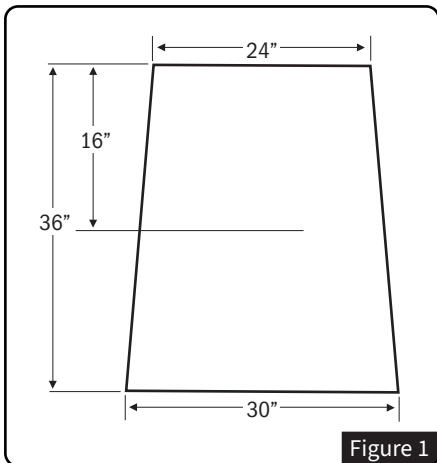

Figure 1
- Dig two holes 20' apart to the depth and dimensions shown in *Figure 1*.